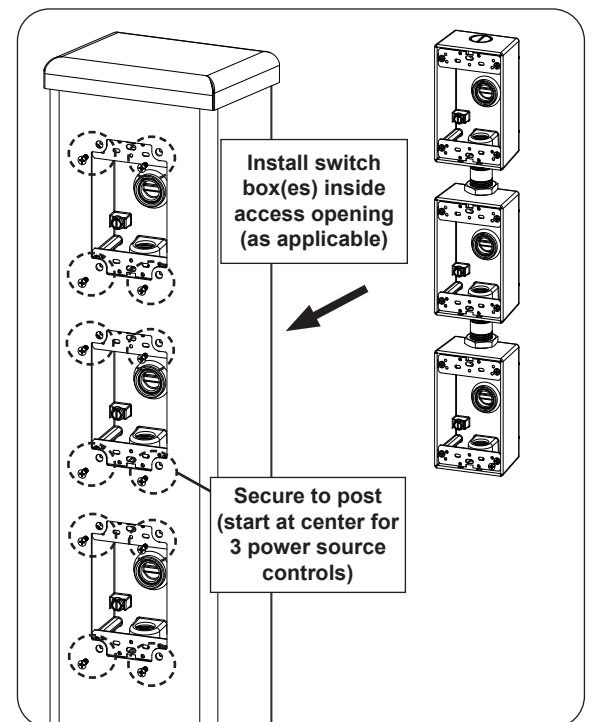

Fig. 7-3 Install switch box(es)
- Secure the detached switch box to the selected knockout with the four screws supplied with the post. See Fig. 7-3.
3. Install the box or joined boxes into the designated knockout opening(s) using the screws provided with the post. See Fig. 7-3.